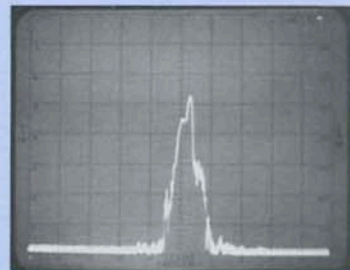
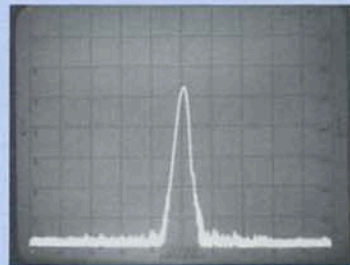

Figure 35A.
Figure 35B.
- Reset the spectrum analyzer controls as in Step 2. Reconnect the ET-2399A signal source. Tune FREQUENCY to 30 MHz. Set SCAN MODE to PER DIVISION, decrease BANDWIDTH to 0.3 kHz, and SCAN WIDTH to 5 kHz/DIV. Some change in coarse FREQUENCY and FINE TUNE may be necessary to keep signal in near-center screen. Note the instability of the trace. See Figure 35A. Turn the TUNING STABILIZER ON. See Figure 35B. HP's unique automatic stabilization circuit eliminates tedious adjustments to lock the analyzer. You don't even have to operate the TUNING STABILIZER switch! Simply leave the switch ON all the time. The analyzer will be automatically stabilized for the blue-coded SCAN WIDTHS when in PER DIVISION and ZERO SCAN positions.